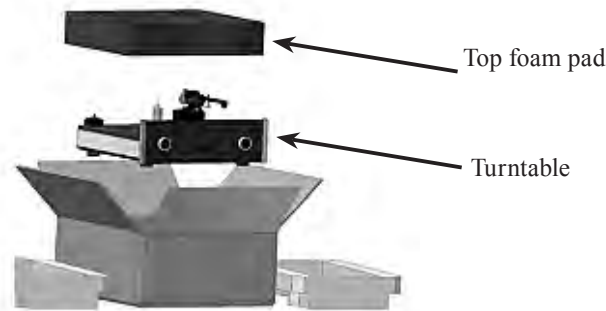

Figure 2
2. Open the turntable inner carton and remove the top foam pad. Refer to figure 2.